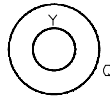

Figure 1-47 Tangent lines and the part of the circle to be deleted
8. Choose the **2 Tangent** option from this submenu. Select circles P and Q on the circumference at the top of the circles. Tangent R is drawn, see Figure 1-47.
9. Similarly, draw tangent S to the circles as shown in Figure 1-47. These two tangents intersect the circles at the tangent points. The circles are now divided into two entities.
10. Delete the part of the circles that is not required by using the **Delete** option from the **SKETCHER** menu, see Figure 1-47.
*If you draw the tangents using **2 Points** option then the circles will not be intersected and hence you cannot delete the part of the circle shown in the Figure 1-47.*